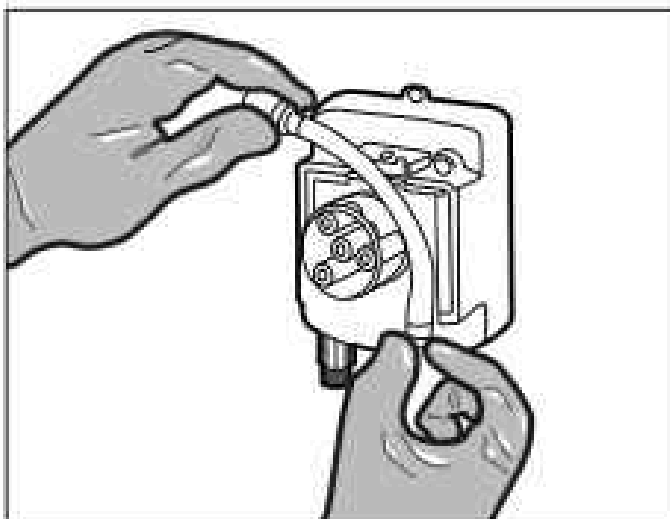

Figure 20. Install New Tube
1. To install a new tube, insert one fitting into the slot, pull the tube around the center of the roller assembly and insert the second fitting into the other slot. See Figure 20.